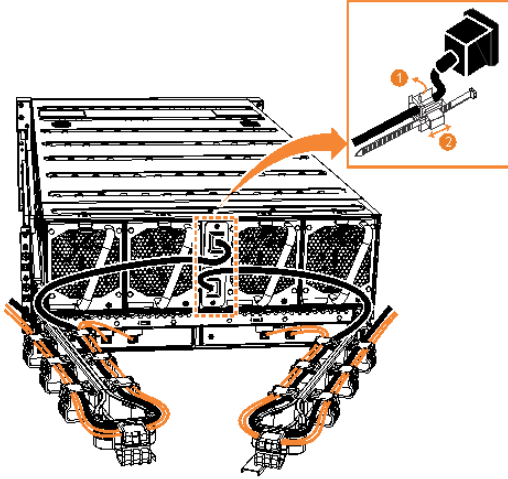

Figure 47. Secure power cables
2. Secure the power cables in the cable retainer at each power connector on the rear of the enclosure, as shown in Figure 47 on page 90. Also, ensure that each cable is installed along one of the cable management arms. The cable management arms also support the SAS cables.